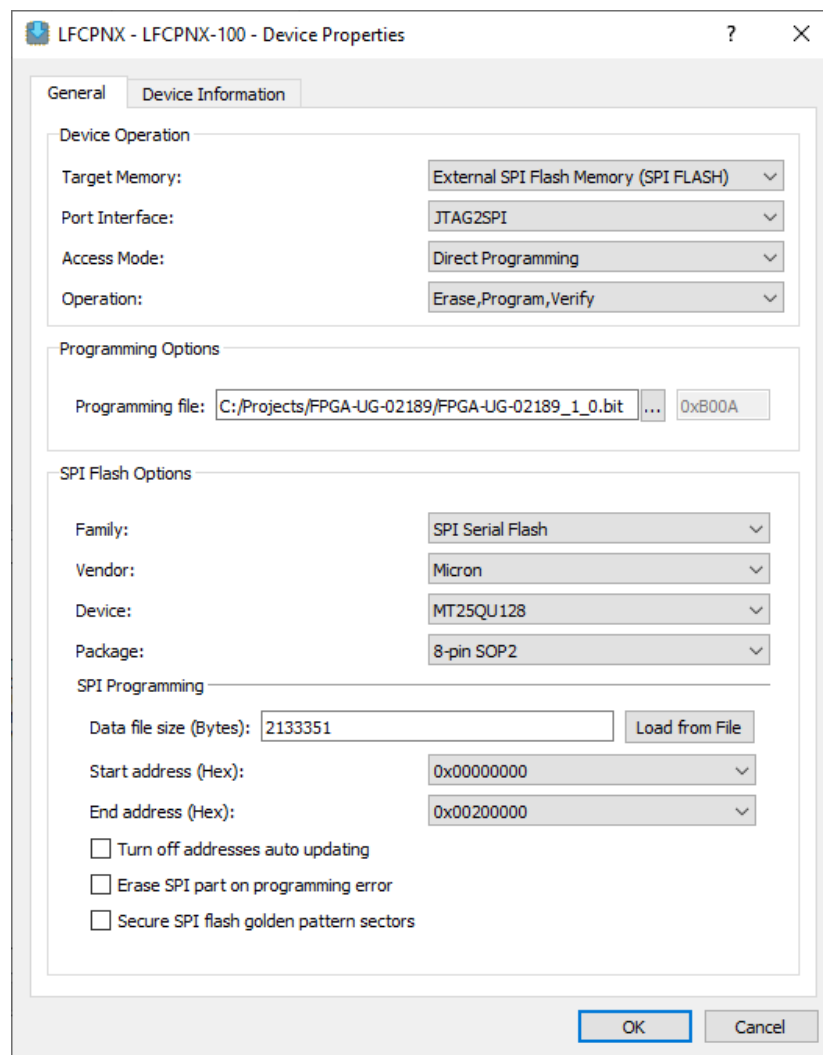

Figure A.6. Radiant Programmer – SPI Flash Operation Device Properties
- b. The Device Properties dialog box opens as shown in Figure A.6. Select the following options: